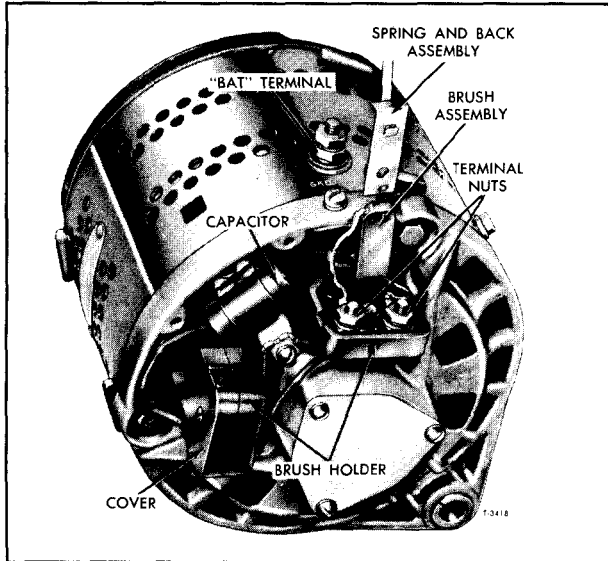

Figure 20—Generator Brush Replacement (Model 1117756 or 1117781) (Typical)
NOTE: Refer to figure 20.
4. Position brush assemblies in cavities in brush holder as shown in figure 20.